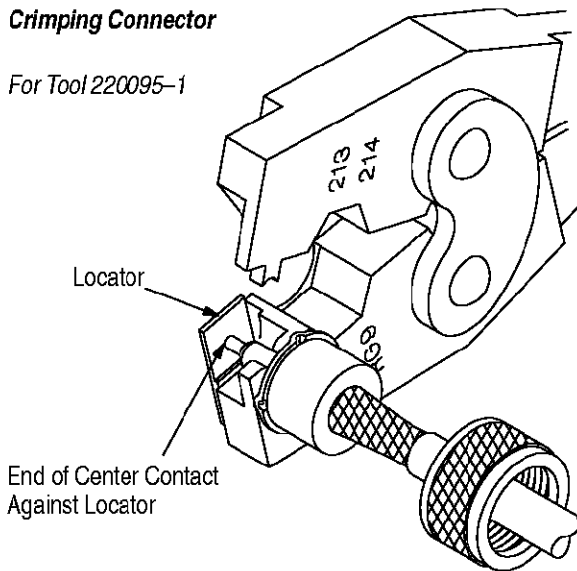

Figure 5
2. Place center contact in tool, with end of contact against locator. See Figure 5.